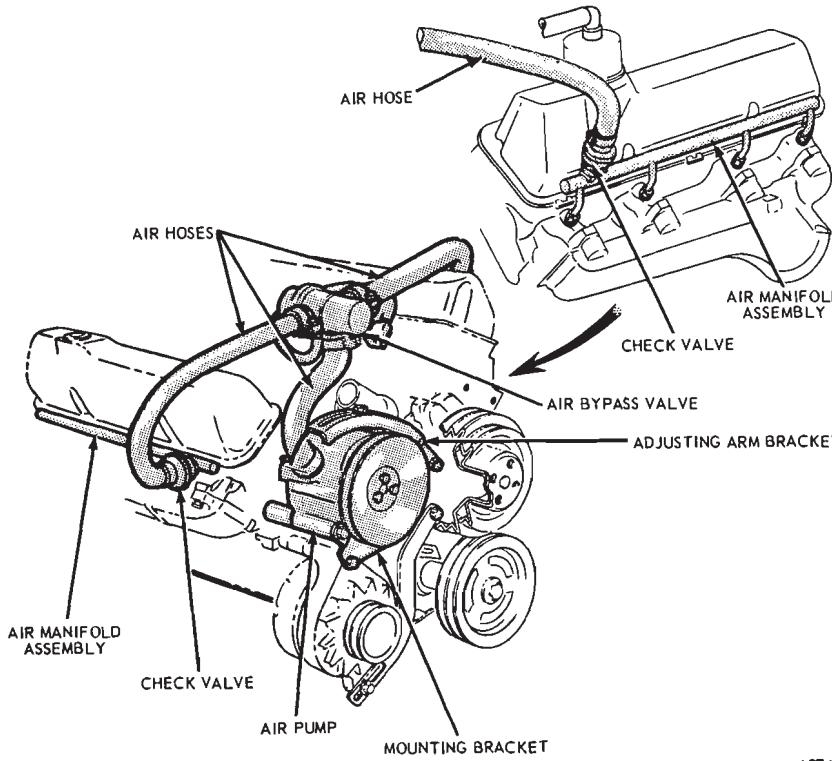

FIG. 5—Thermactor Exhaust Emission System Installation
2. If adjustment is necessary, loosen the air pump mounting and adjusting arm bolts (Fig. 5). Move the air pump toward or away from the engine until the correct tension is obtained. Use a suitable bar and pry against the pump rear cover to hold belt tension while tightening the mounting bolts. Do not pry against the pump housing. Remove the gauge. Tighten the air pump adjusting arm and mounting bolts. Install the tension gauge and check the belt tension.
1. Loosen the air supply pump adjusting arm bolt (Fig. 5). Loosen the air supply pump to mounting bracket bolt, and push the air pump towards the cylinder block. Remove the drive belt.
1. Disconnect the air and vacuum hoses at the air bypass valve body (Fig. 5), and remove the valve.